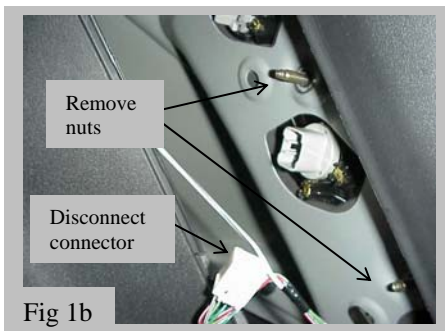

Fig 2a
- (a) Push the connector of the new lamp through the large, middle opening in the taillight cavity. (Fig 2a)